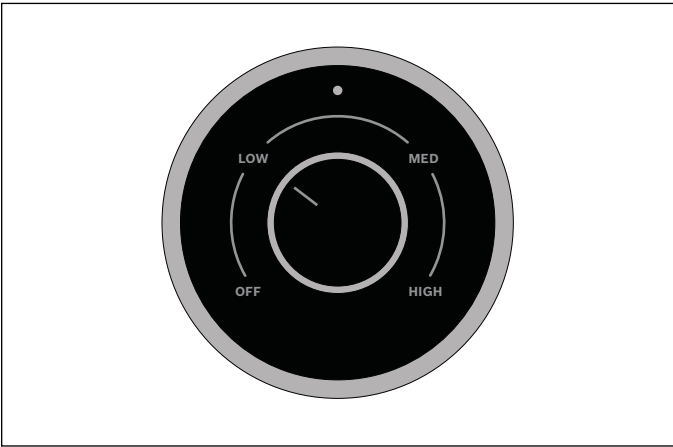

Figure 13
2. Take a photo of element wiring for reinstallation. Disconnect the wires from the element. See Figure 13.